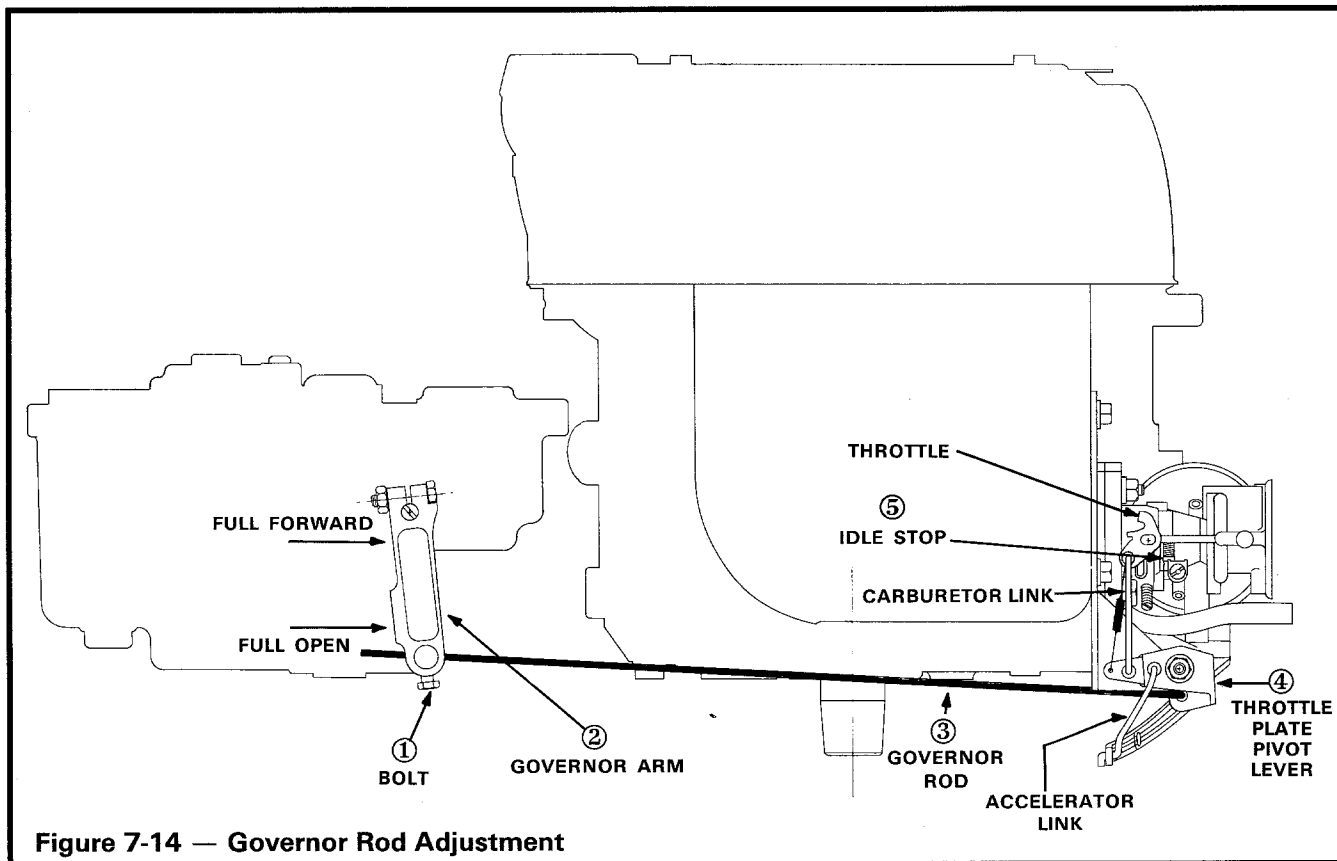

Figure 7-14 — Governor Rod Adjustment
2. Loosen bolt (1) at governor arm (2) located on transmission (**Figure 7-14**).
3. Remove retaining ring at governor rod (3) to pivot (4).
4. Remove rod (3) from plastic bushing in pivot (4) and remove rod.
If the bushings in the throttle plate pivot lever are excessively worn, they should be replaced. There are three bushings in the throttle pivot, one in which the governor rod is inserted, one in which the carburetor link is inserted and one in which the accelerator link is inserted (Figure 7-14).
5. Install governor rod into proper bushing (**Figure 7-14**).